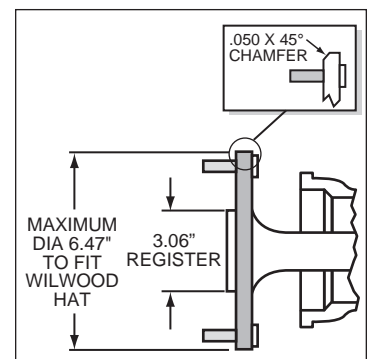

Figure 3. Axle Flange Maximum Dimension
- Axle center register diameter is 3.06", Figure 3. Rotors can either be centered on the axle register, i.e. *register-centric* or centered on the wheel studs, i.e. *stud-centric*. Due to variations in wheel stud final diameters, *register-centric* centering can be a more accurate method of centering the rotor to the axle. Wilwood offers various diameter adapters for purchase, see Table 1.
- Maximum axle flange diameter must be no larger than 6.47" w/.050" x 45° chamfer (Figure 3).